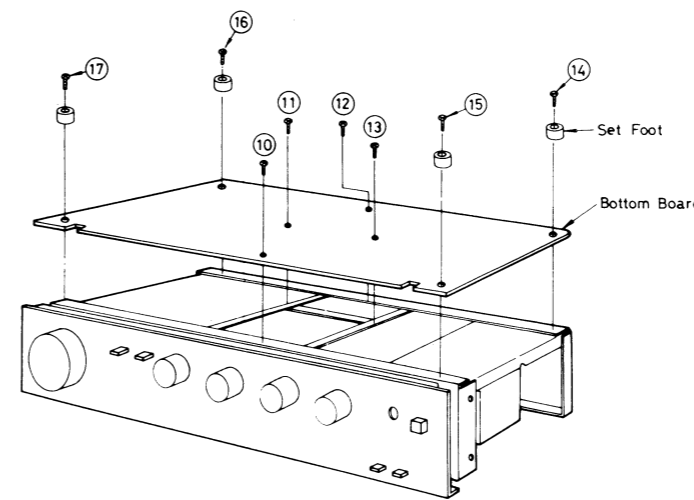

Fig. 3
1. Remove the 4 setscrews (⑩ ~ ⑬ in Fig. 3) used to secure bottom board and 4 setscrews (⑭ ~ ⑰ in Fig. 3) for the legs. Then the bottom board can be detached.